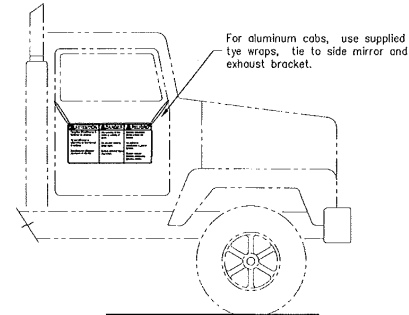

Figure 1
5. Place a Danger sign (Figure 1) on both cab doors. "Man working on the inside or outside of drum. Do not start mixer or rotate drum. Serious personal injury may occur."